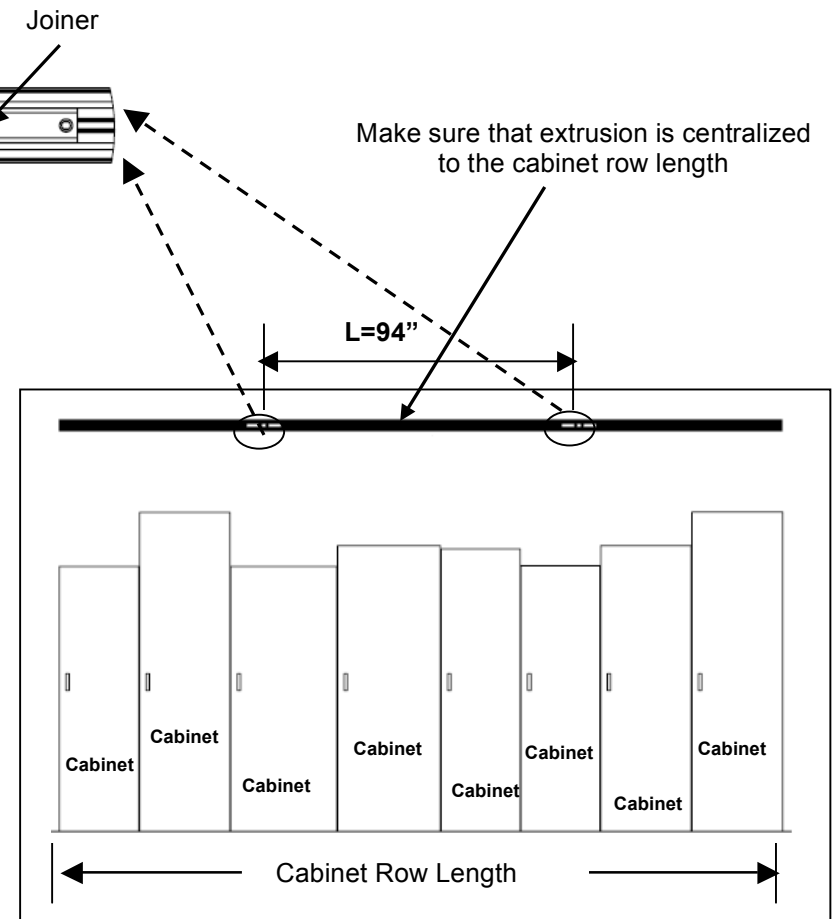

Fig. 6
- b. Position the extrusion piece approximately centers of the cabinet row length and join the extrusion piece on both side using Joiner (Fig. 6).